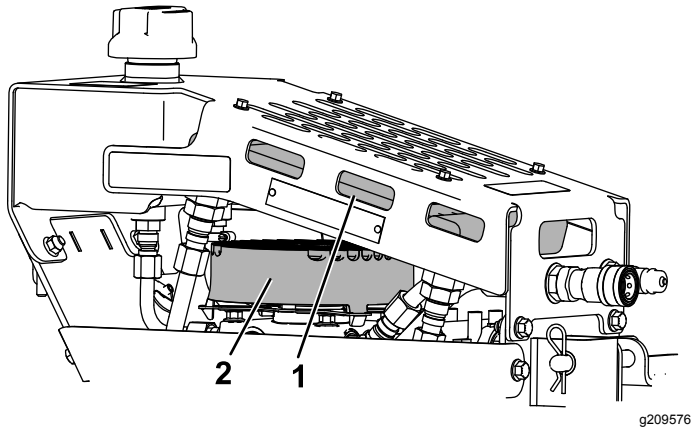

Figure 13
3. Remove any debris buildup from the hydraulic cooler and pump fan shroud (Figure 13).